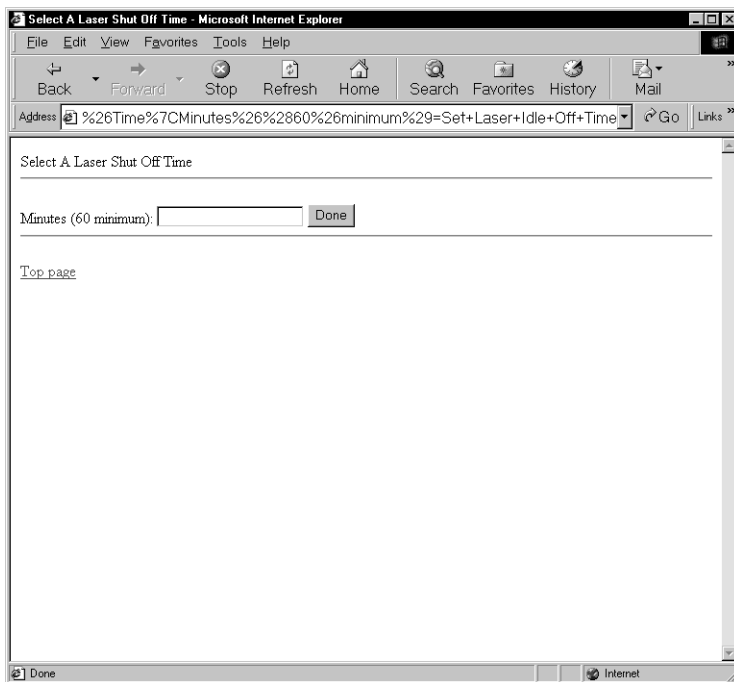

Fig 13-2. The Select A Laser Shut Off Time window.
- 1 In the Typhoon Direct Instrument Access window, click **Select A Laser Shut Off Time**. The Select A Laser Shut Off Time window appears (fig 13-2).